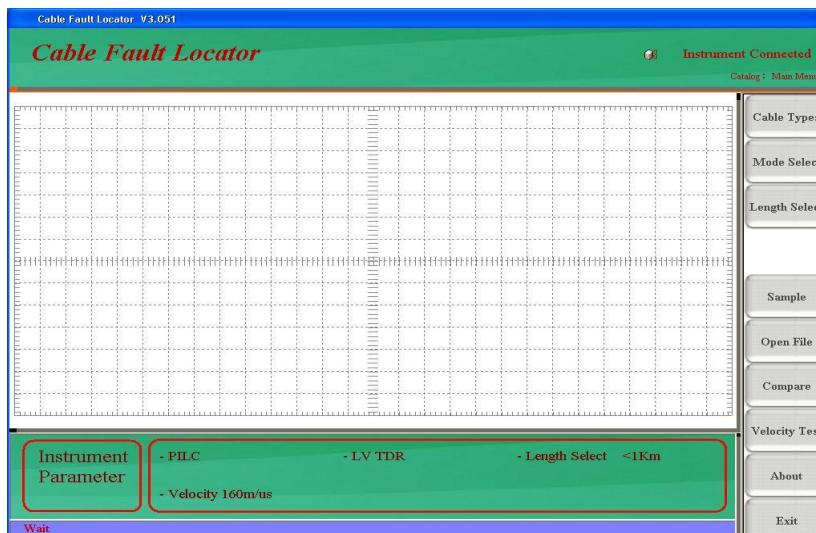

Fig 6-3
**A.** In the function setting area of the main interface, select the cable type, select the detection method of low-voltage pulse method, and the working indicator is displayed in green. Select the appropriate test length range. As shown in Figure 6-3.